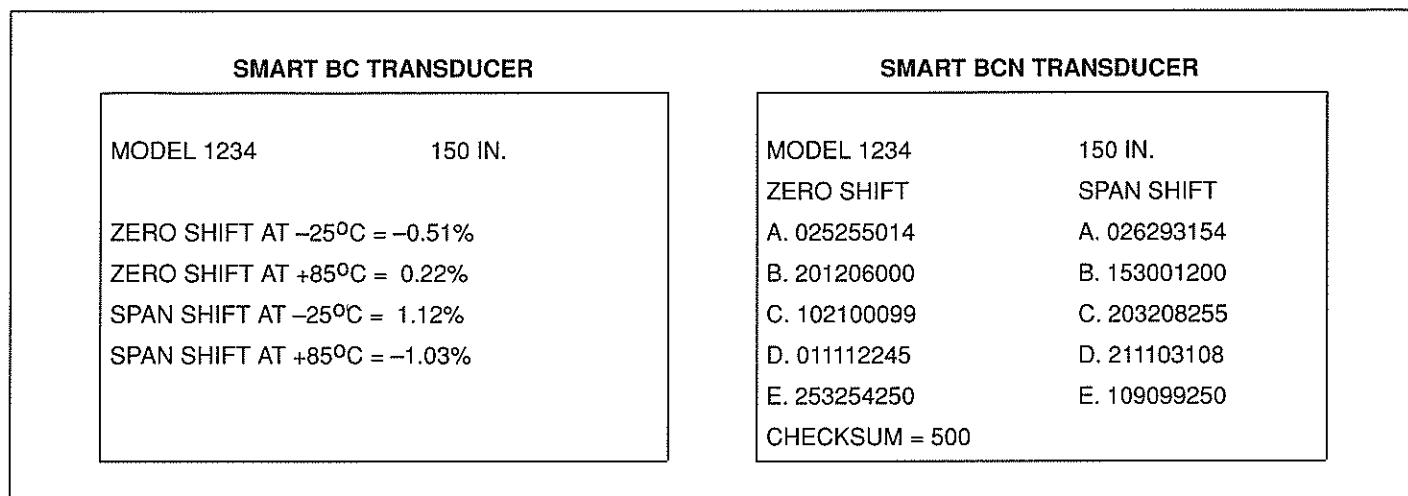

FIGURE 22 – Sample Temperature Coefficient Data Labels
A temperature sensor located within the transducer assembly reads and reports the transducer's temperature to the microcomputer. Using this temperature along with user-entered temperature coefficient data (Figure 22), temperature compensation is performed.
Smart BCN sensor: the STT02 asks for temperature coefficient data (zero and span shift, A thur E). Enter the data found on the label inside the housing as prompted by the STT02. (See Figure 22.)
**NOTE:** The data appearing in Figure 22 is sample data, used for illustrative purposes. The data for actual use is located inside the amplifier housing.